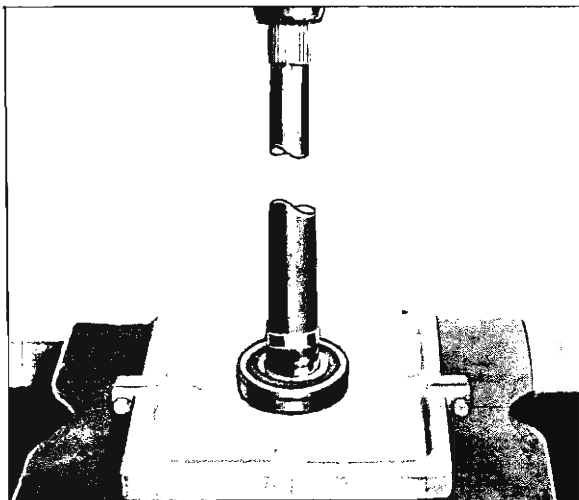

Fig. 2—Removing Axle Shaft Wheel Bearing
3. Install press plate, Tool J-5741, between bearing and axle retainer plate (fig. 2). It will be necessary to remove axle retainer plate attaching bolts to permit installation of Tool J-5741 between retainer and bearing.
4. Press bearing from shaft with press plate parting line positioned on press bed, as shown in Figure 2.